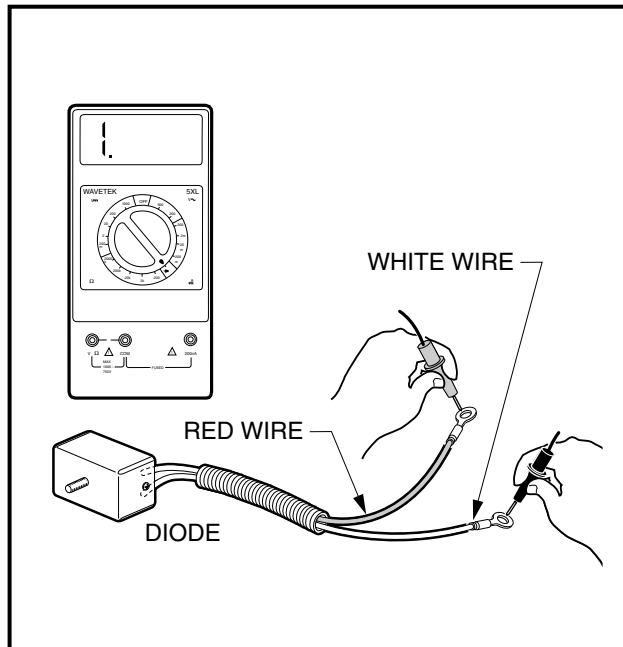

Figure 11-37 Diode Test
3. With the multimeter set to the diode test function ( $\rightarrow$ ), connect the black (-) probe of the multimeter to the white lead of the diode and the red (+) probe of the multimeter to the red lead of the diode (**Figure 11-37, Page 11-33**). The reading should indicate an overload (no continuity). A diode is designed to conduct current in one direction only. If a diode conducts current (shows continuity) with the meter probes as described, the diode has failed and must be replaced. **See Large Style Diode Removal, Section 12, Page 12-14.**